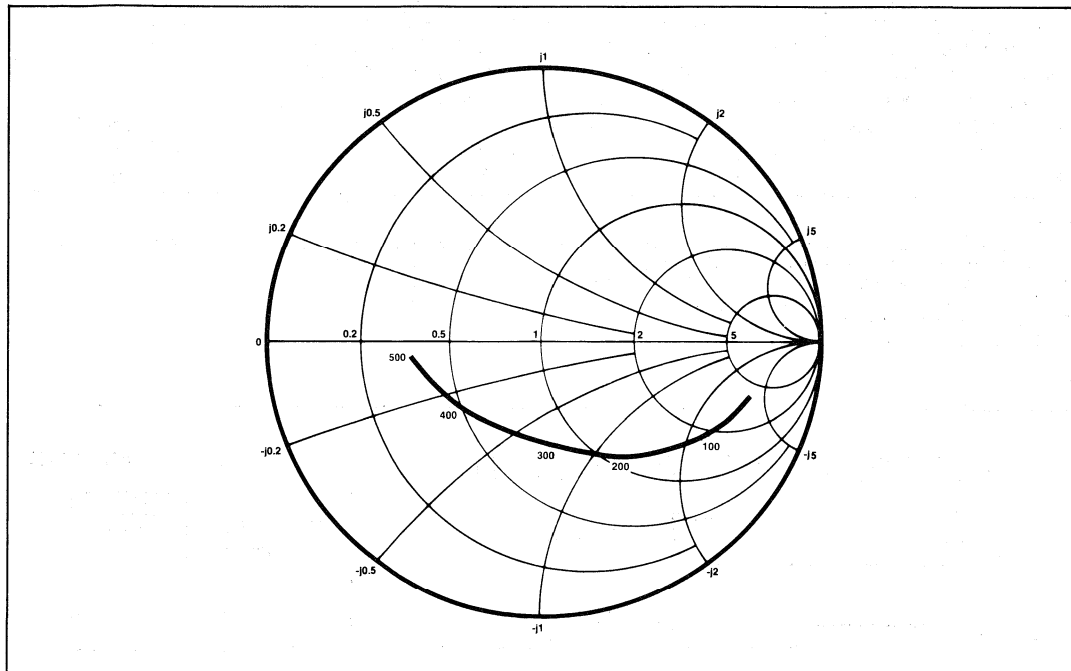

Fig.5 Typical input impedance. Test conditions: supply voltage -5.2V, ambient temperature 25°C, frequencies in MHz, impedances normalised to 50 ohms.
6. The input impedance of the SP8743 varies as a function of frequency. See Fig. 5.